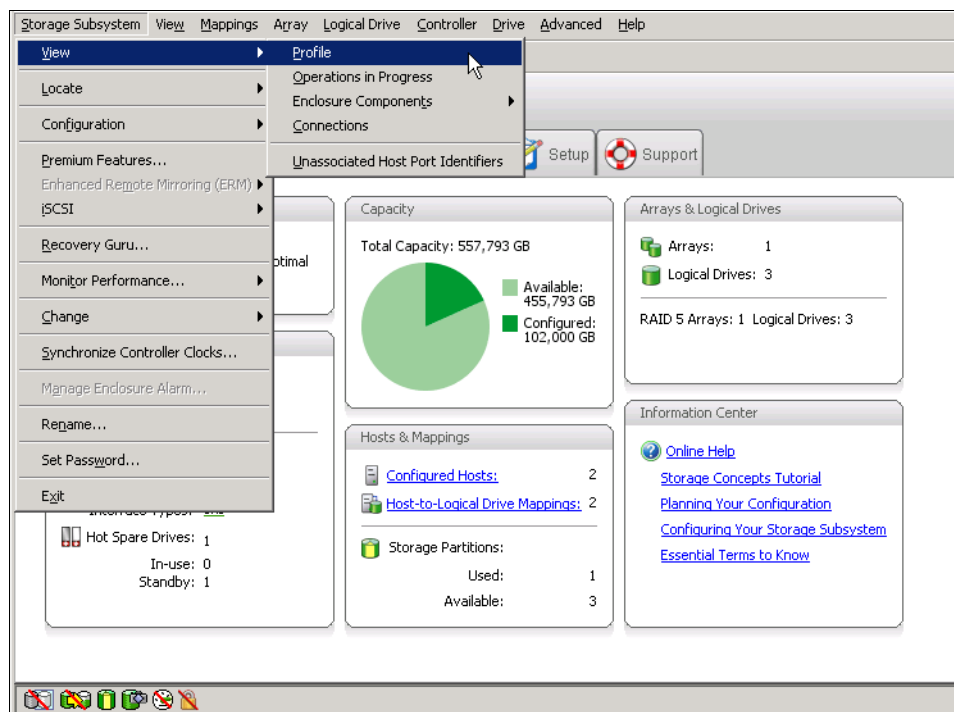

Figure B-1 Profile view in DS Storage Manager
1. In your DS Storage Manager, navigate to your profile to determine whether you must change your current settings. These settings are at the bottom, near the end of the Mappings profile (Figure B-1).